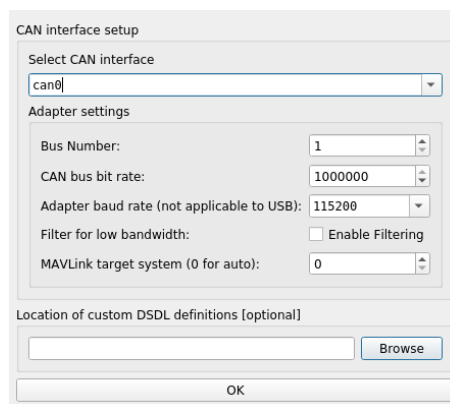

Figure 7: DroneCAN GUI CAN interface setup
**can0** should be seen as the CAN interface, like the CAN interface setup screenshot in Figure 7, then press OK.